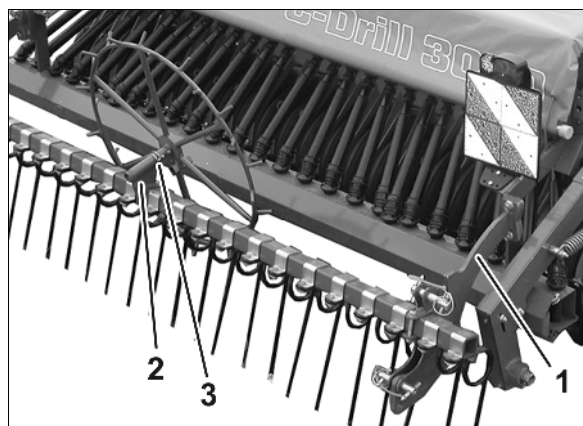

Fig. 21
10. Mount the harrow with carrier (Fig. 21/1) on to the **C-Drill**.
11. Mount the star wheel carrier (Fig. 21/2) on to the harrow bar.
Insert the star wheel and secure using a lynch pin (Fig. 21/3).
For harrow attachment, see Fig. 21.